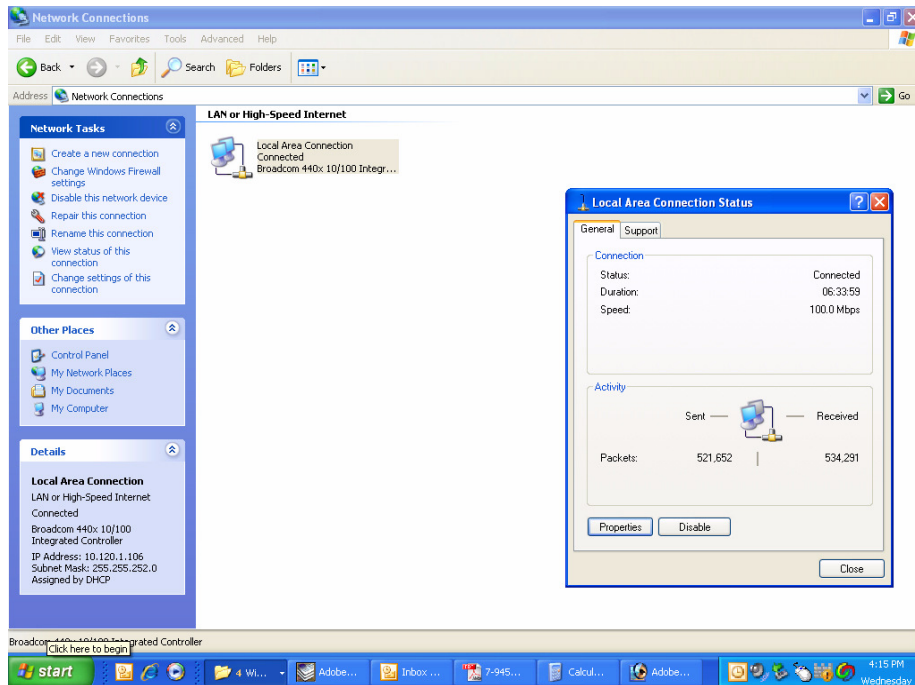

Figure B4: Select the “Properties” tab.
- 5) The "Local Area Connection Status" box will open. Single click the "Properties" tab as shown in **Figure B4**. **Note:** If you do not have the cable connected between the service computer and the booster front panel the "Local Area Connection Status" box will not open. Instead proceed to step 6.